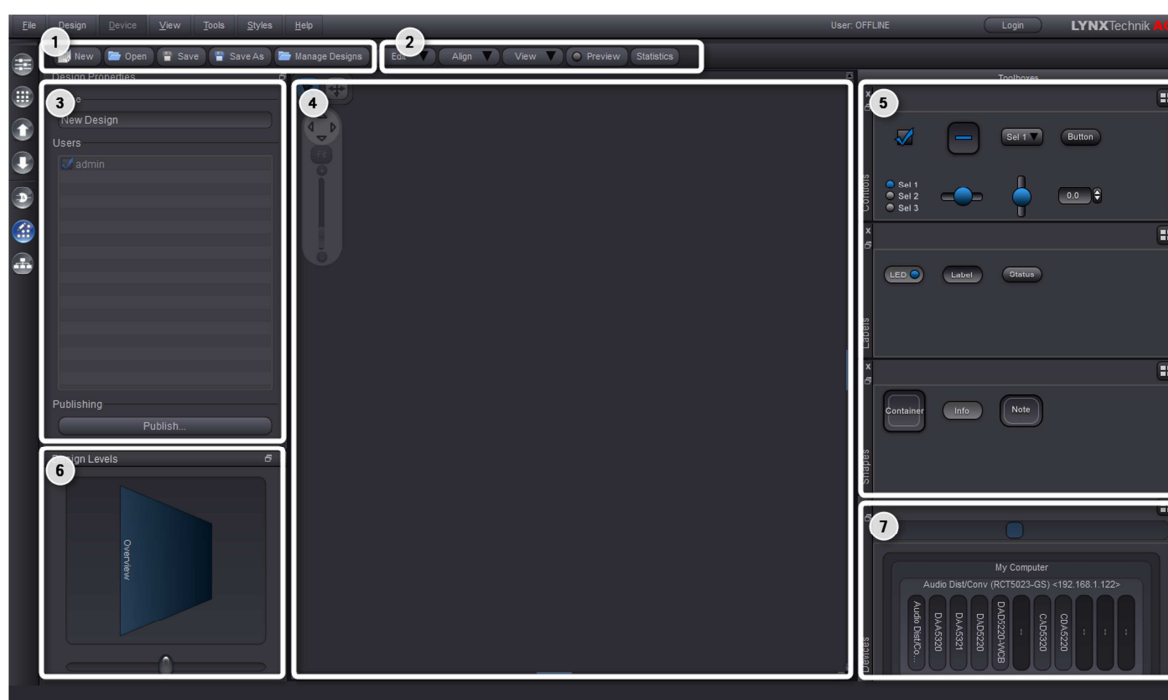

figure 1: Layout of CustomControl editor window
See area (1) in figure 1: A CustomControl Design is stored and managed like a regular file on the hard-drive of your workstation. The usual functions provided here let you create a new Design, save your latest changes etc. The "Manage Designs ..." button shows the list of all available Designs, and allows for import/export/deletion of any such Design file.
See area (2) in figure 1: A few assisting functions make the editing of a Design easier. You can select, cut, copy and paste elements, you can undo and redo your recent changes, and you can also display a grid-line overlay to help with the correct alignment of elements.
See area (3) in figure 1: This section controls various properties of the current Design (i.e. the Design that is currently loaded into the Editor). Use these functions to change the Design's name and also the users, to which the Design shall be published. In addition, here is the "Publish ..." button that can be used to actually
See area (4) in figure 1: This central area is where you build your Custom Design. The various possibilities and workflows are described in the example on page 8.
See area (5) in figure 1: Various different content elements are provided as the building blocks that you will use to populate your Design. The elements are structured in various toolboxes.
See area (6) in figure 1: You can use one or more Container elements in your Design (from the "Shapes" Toolbox), and then place individual controls either into such Containers, or next to them. This results in a hierarchical structure, where
See area (7) in figure 1: The ParameterPicker Tool is a representation of all devices (real or simulated) with all their properties and parameters that are currently connected to this APPolo GUI. Real devices are, however, presented only if the appropriate Server has the OC_*_CUSTOMCONTROL option activated.